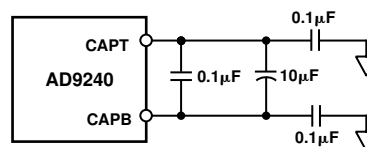

Figure 30. Recommended CAPT/CAPB Decoupling Network
The actual reference voltages used by the internal circuitry of the AD9240 appear on the CAPT and CAPB pins. For proper operation when using the internal or an external reference, it is necessary to add a capacitor network to decouple these pins. Figure 30 shows the recommended decoupling network. This capacitive network performs the following three functions: (1) along with the reference amplifier, A2, it provides a low source impedance over a large frequency range to drive the A/D internal circuitry, (2) it provides the necessary compensation for A2 and (3) it bandlimits the noise contribution from the reference. The turn-on time of the reference voltage appearing between CAPT and CAPB is approximately 15 ms and should be evaluated in any power-down mode of operation.
For the purpose of simplicity, the figures associated with this section on internal and external reference operation do not show recommended matching series resistors for VINA and VINB. Please refer to section Driving the Analog Inputs, Introduction, for a discussion of this topic. The figures do not show the decoupling network associated with the CAPT and CAPB pins. Please refer to the Reference Operation section for a discussion of the internal reference circuitry and the recommended decoupling network shown in Figure 30.